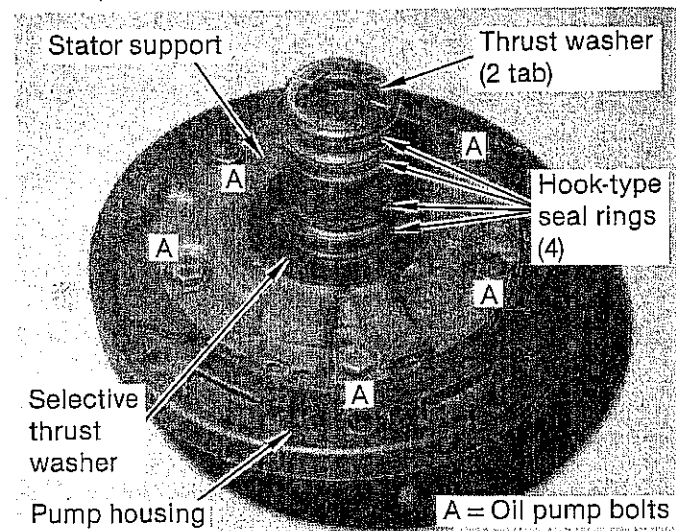

FIGURE 28
STEP 1. Remove and discard the O-ring on the outside diameter of the pump if your model has one and the four metal hook-type seal rings on the rear of the pump. (See Fig. 28) Remove the selective thrust washer and the small two-tab washer on the back of the pump. Set it in the oil pan.
STEP 2. Remove the five oil pump bolts from rear of oil pump. (See Fig. 28) Remove stator support from pump housing. Remove pump drive gear and driven gear.